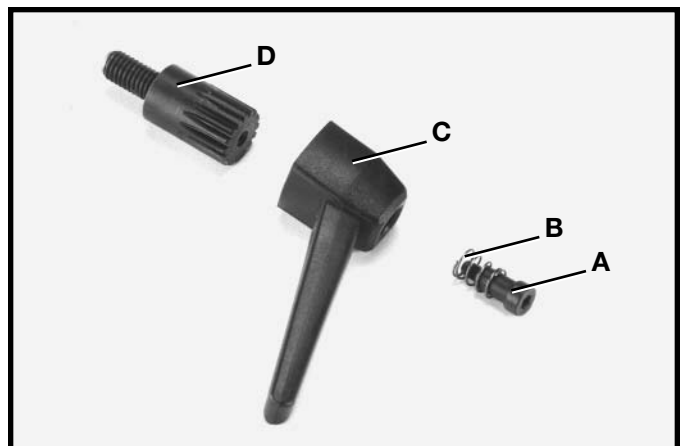

Fig. 8
1. Locate handle assembly and remove screw (A) Fig. 8, and spring (B) from handle (C). Separate handle (C) from stud (D). Do not lose spring (B).